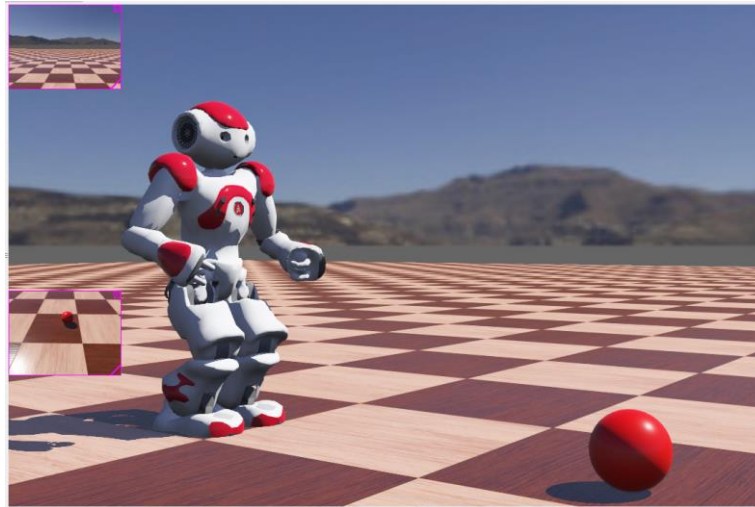

Figure 2: Football ball following scenario.
- Change the radius of the ball by clicking on the radius and change the value to 0.05 and enter. Environment should look like Figure 2.